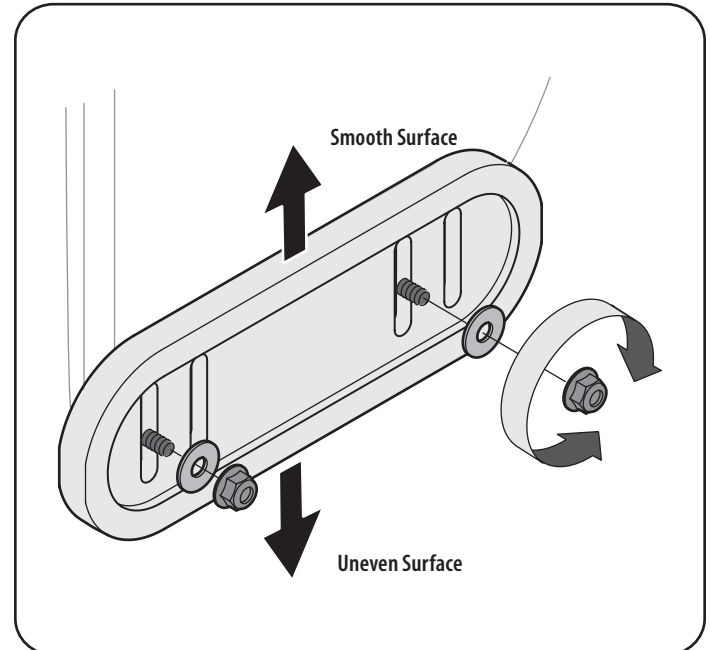

Figure 17
1. Loosen the four hex nuts (two on each side), flat washers, and carriage bolts. Move skid shoes to desired position. See Figure 17.